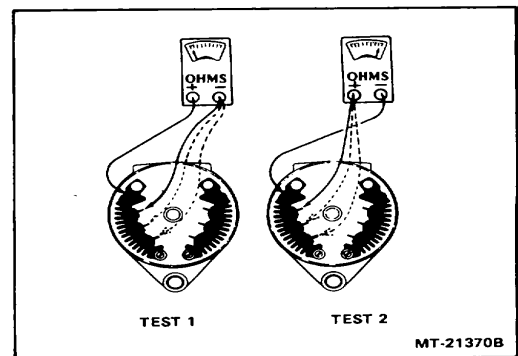

Figure 15 - Positive Heat Sink Tests.
1. Connect the positive lead of the diode tester, ohmmeter, or test light to the positive heat sink and touch the negative test lead to each of the three diode terminals (Test 1, Figure 15). A high resistance should be indicated and if a test light is being used, it should not light. If any of the three diodes shows a low resistance, or the test lamp lights, the diode is shorted. See IMPORTANT on next page.
2. Reverse the test leads so that the negative test lead is connected to the positive heat sink. The positive test lead should now be touched to each diode terminal (Test 2, Figure 15). A low resistance reading should be obtained. If a high resistance reading is obtained, or the test lamp fails to light, an open diode is indicated. See IMPORTANT on next page.